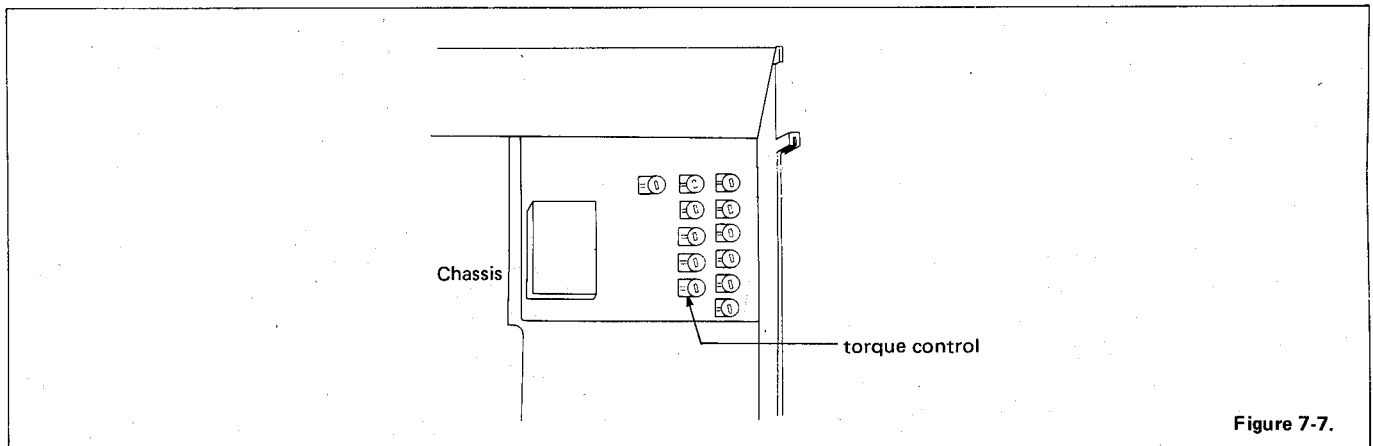

Figure 7-7.
• Adjustment (See Figure 7-7.)